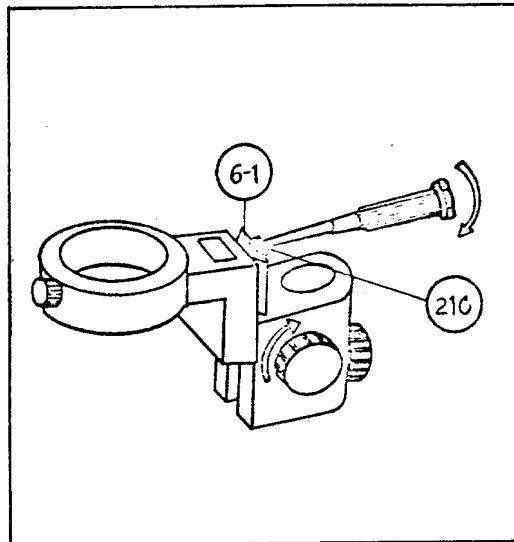

Fig. 62
- 1) Driving up the rack (6-1) to the top of the dovetail groove, remove the HS bolt (21C) (Fig. 62).